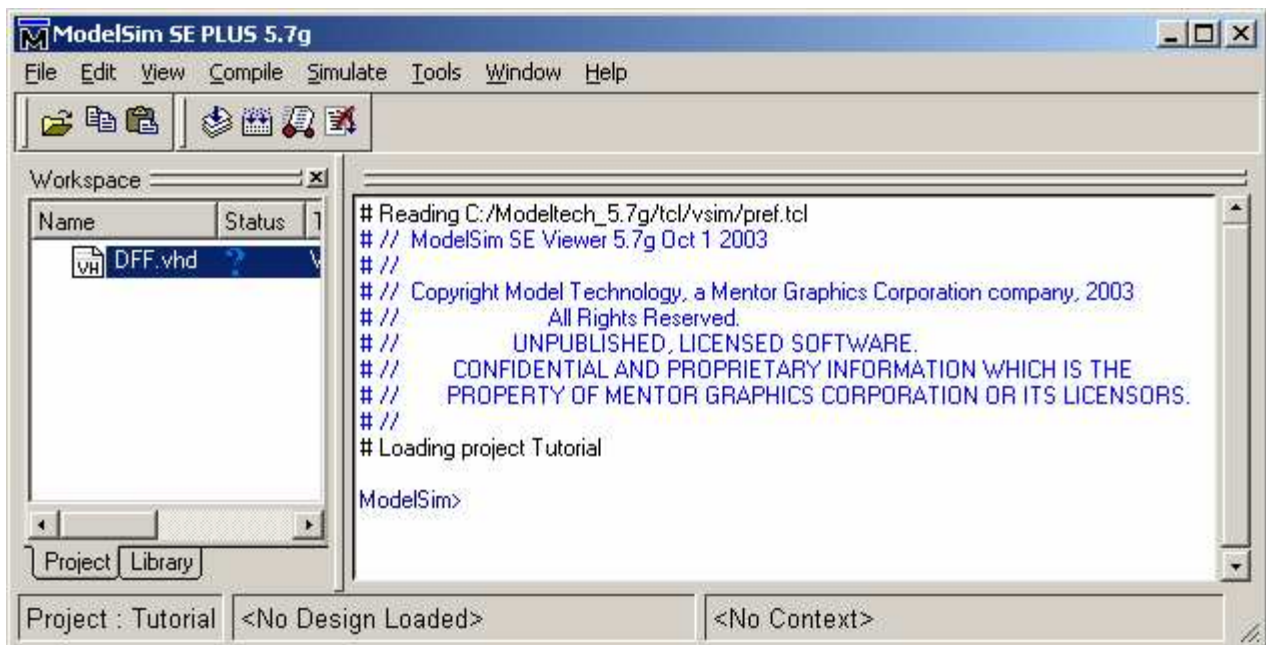

Figure 5: “ModelSim’s Main Window”
3. On the workspace section of the Main Window (See Figure 5), double-click on the file you have just created (DFF.vhd in our case).